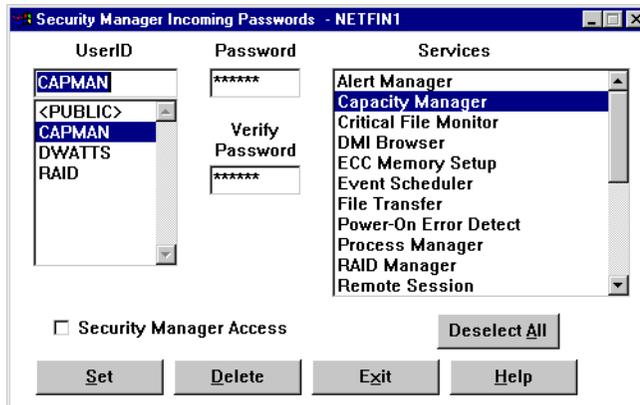

Figure 121. Incoming Passwords for a Remote Server
2. Double-click **Edit/Display Incoming Passwords**. Figure 121 appears:
We recommend you set up a user ID and password combination that has access to the Capacity Manager service only, as we have done in Figure 121. This ensures that, even if the password is compromised, none of the critical services are accessible.